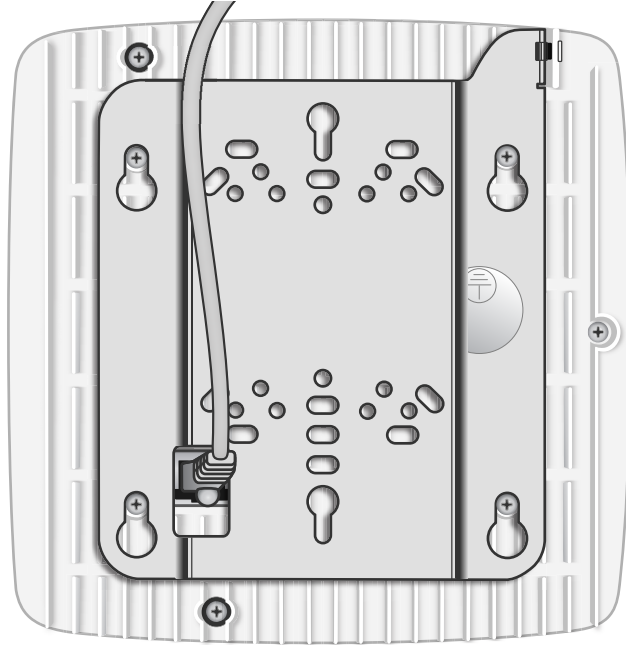

Figure 13 Route and Terminate the Cable
Step 4 Insert the RJ-45 connector into the Ethernet port as shown in Figure 13: